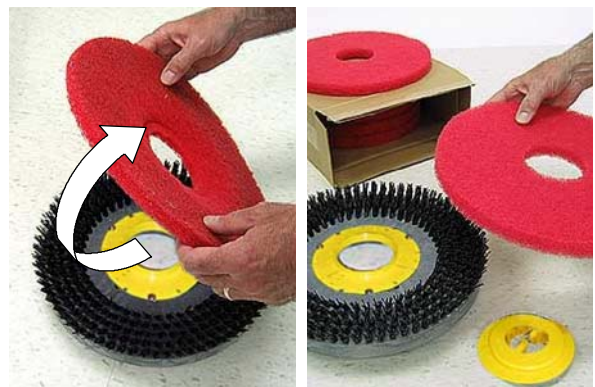

FIG. 38
5. Remove the pad/brush and clean. Rotate pad or replace when worn (Figure 38).